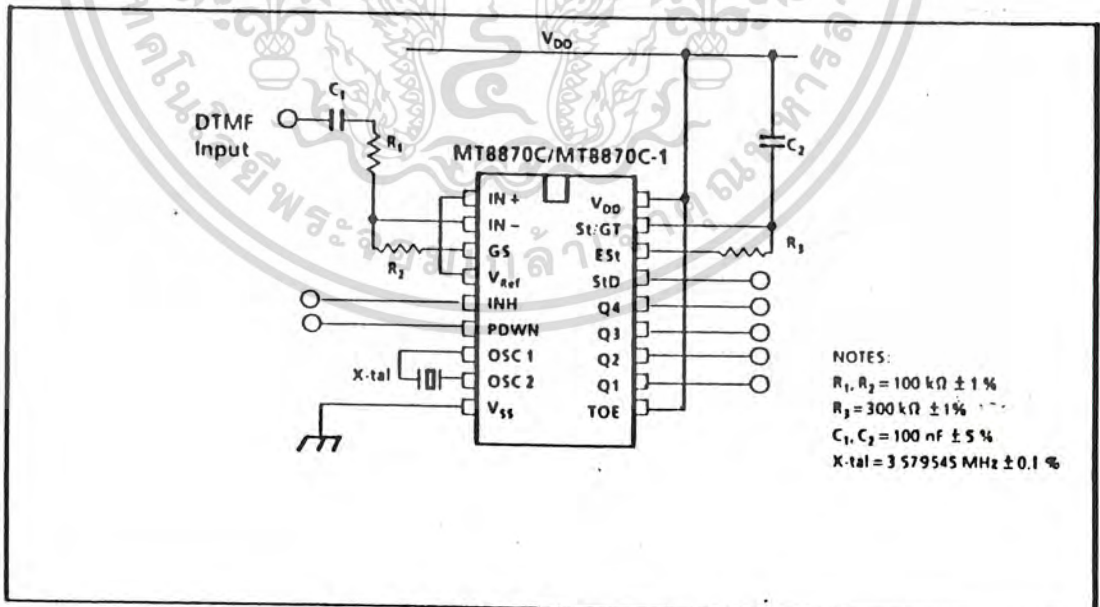
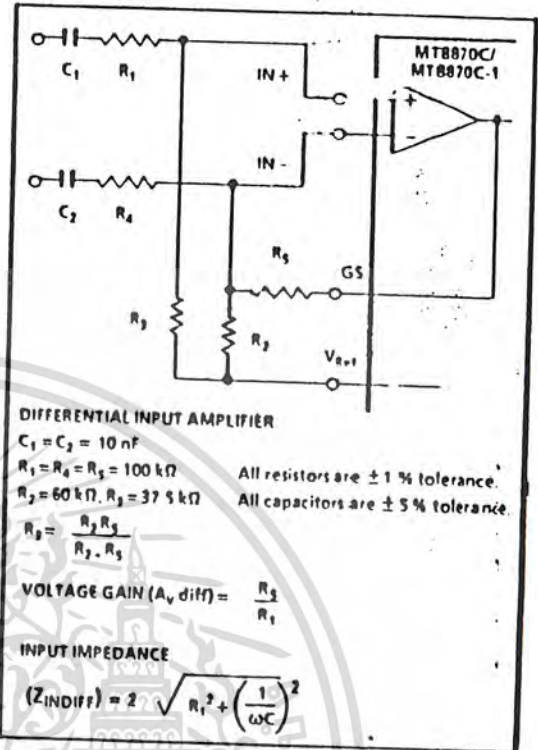

Figure 2 - Single-Ended Input Configuration
Figure 7- Differential Input Configuration
**MT8870C AC Electrical Characteristics** -  $V_{DD} = 5.0V \pm 5\%$ ,  $V_{SS} = 0V$ ,  $-40^{\circ}C \leq T_O \leq +85^{\circ}C$ , using Test Circuit shown in Figure 2.
**MT8870C-1 AC Electrical Characteristics** -  $V_{DD} = 5.0V \pm 5\%$ ,  $V_{SS} = 0V$ ,  $-40^\circ C \leq T_O \leq +85^\circ C$ , using Test Circuit shown in Figure 2.
AC Electrical Characteristics ·  $V_{DD} = 5.0V \pm 5\%$ ,  $V_{SS} = 0V$ ,  $-40^\circ C \leq T_o \leq +85^\circ C$ , using Test Circuit shown in Figure 2.
The input arrangement of the MT8870C/MT8870C-1 provides a differential-input operational amplifier as well as a bias source ( $V_{REF}$ ) which is used to bias the inputs at mid-rail. Provision is made for connection of a feedback resistor to the op-amp output (GS) for adjustment of gain. In a single-ended configuration, the input pins are connected as shown in Figure 2 with the op-amp connected for unity gain and  $V_{REF}$  biasing the input at  $\frac{1}{2}V_{DD}$ . Figure 7 shows the differential configuration, which permits the adjustment of gain with the feedback resistor  $R_S$ .
The internal clock circuit is completed with the addition of an external 3.579545 MHz crystal and is normally connected as shown in Figure 2 (Single Ended Input Configuration). However, it is possible to configure several MT8870C/MT8870C-1 devices